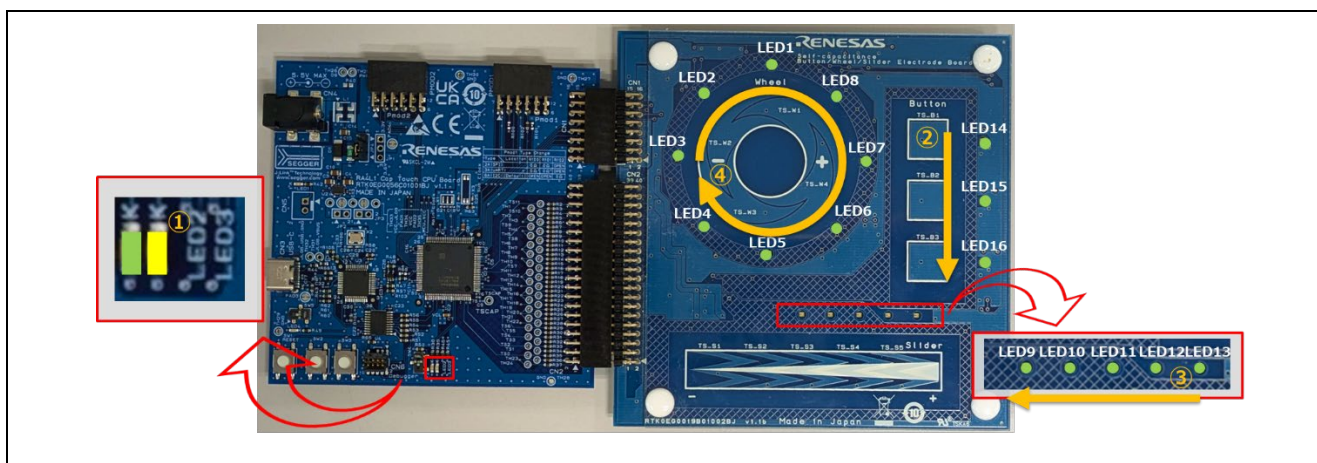

Figure 1-1 LED Testing During Software Startup
1. When the power is turned on and started, the LED test is performed. First, turn on LEDs 2 and 3 on the CPU board. After that, the LEDs on the electrode board are turned on and off in the order of buttons, sliders, and wheels. (See Figure 1-1.)